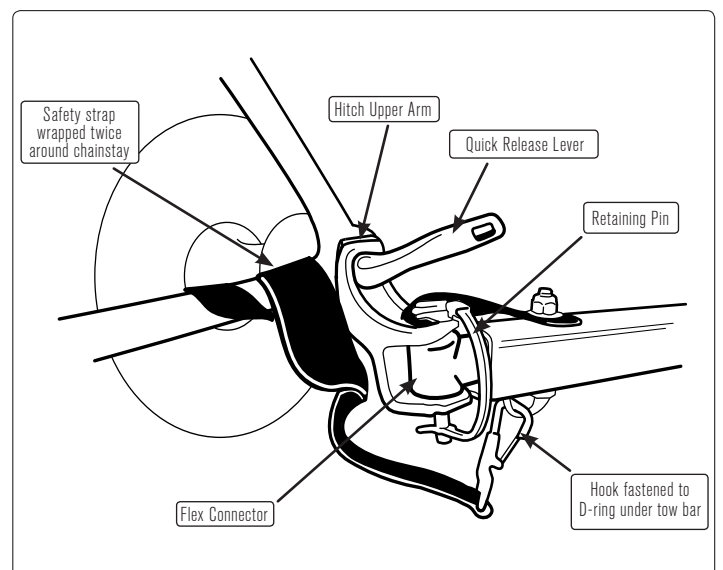

FIGURE 7: Quick release assembly shown
7. Wrap safety strap twice around inside of chain stay. Fasten hook to D-ring on underside of tow bar end. **FIGURE 7**